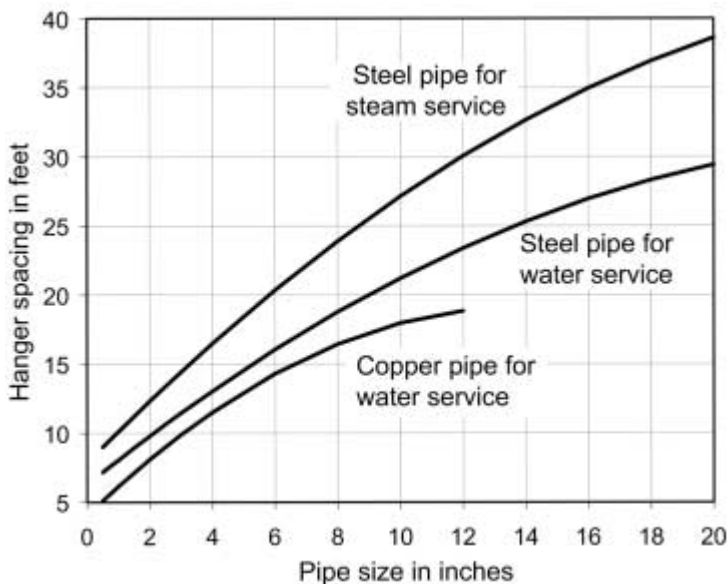

FIGURE 3.1 Recommended horizontal pipe support spacing.
Pipe supports should be used whenever possible to prevent bending or strain of the pipes and connections. This is particularly important with steam, refrigerant, and high-pressure piping where a leak can be a big problem. The thinner the pipe, the less support it can provide itself and the greater the number of hangers and supports required. Figure 3.1 shows the recommended hanger support distances for horizontal pipe used in different applications. Keep in mind that the supports must themselves be supported using steel threaded rods of the proper size and that the total supported weight
When copper pipe is used for refrigeration service, insulated horizontal suction lines can be laid, unclamped, on hangers provided that they are insulated from vibrations that may abrade the pipe. Compressor discharge piping must be securely clamped to supports. The spacing of the supports depends on the pipe size; thicker pipe is more rigid and can support longer distances. You should use pipe hanger spacing distances similar to that for copper piping in Figure 3.1.
*The hanger spacings listed in Figure 3.1 are for just the pipe and do not include valves, tees, or any other point loads. You should include additional hangers if there is additional hardware on the piping system.*